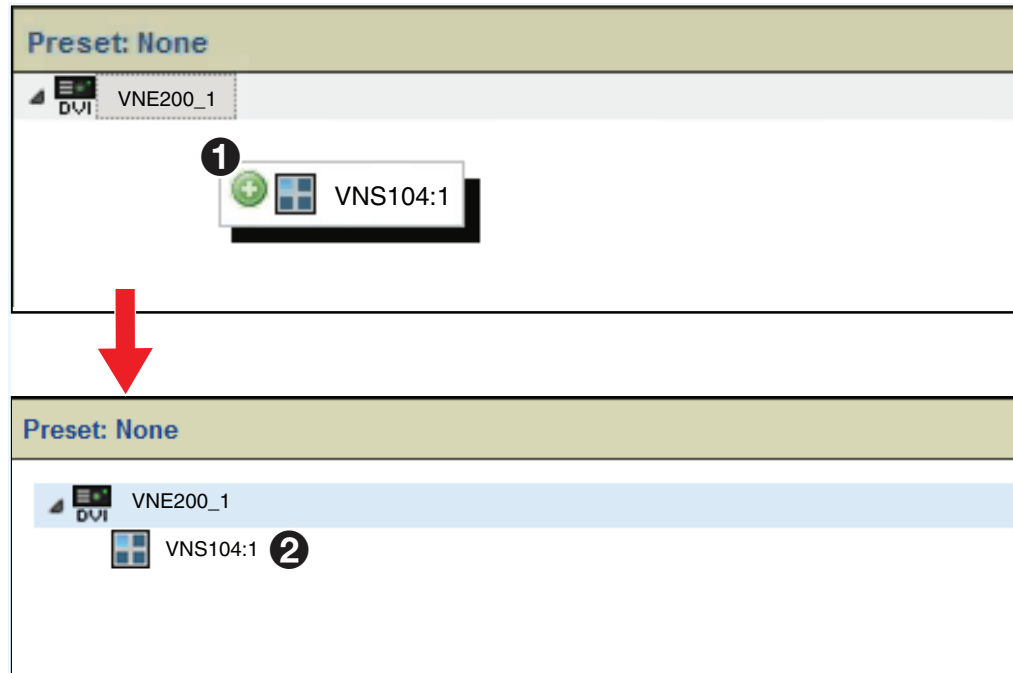

Figure 106. Presets, Drag and Drop the VNS 104
3. Drag one of the four software decoder channels from the **Device List** (see figure 106, ①) and drop it onto the source device in the **Preset** panel (②).